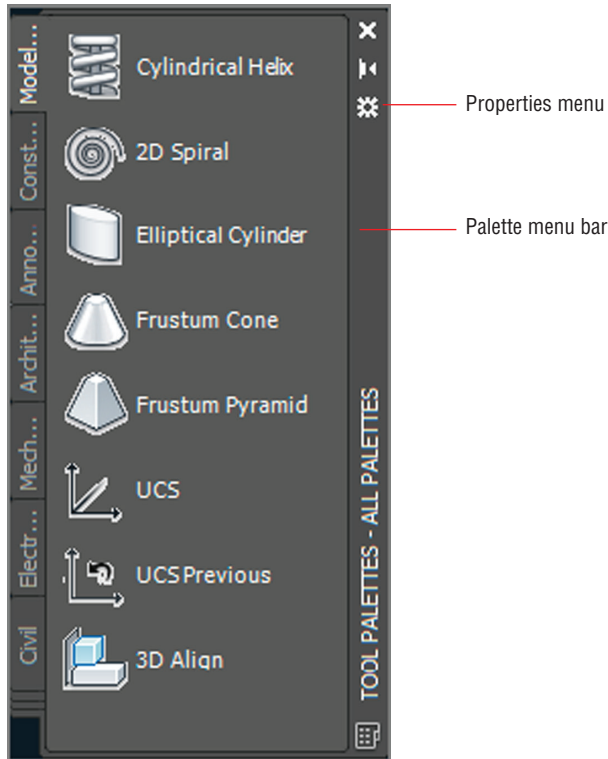

FIGURE 9.15 Tool palettes
2. Right-click the Palette menu bar and select New Palette. Type Furniture and press Enter (see Figure 9.15).